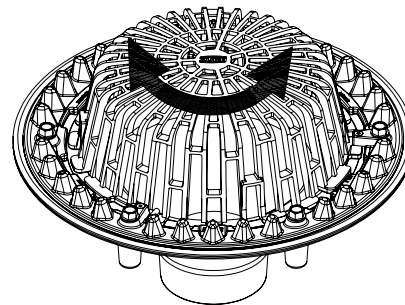

Figure 4
6. Conservatively try to rotate the dome counter-clockwise to ensure the dome cannot move (Fig 4).